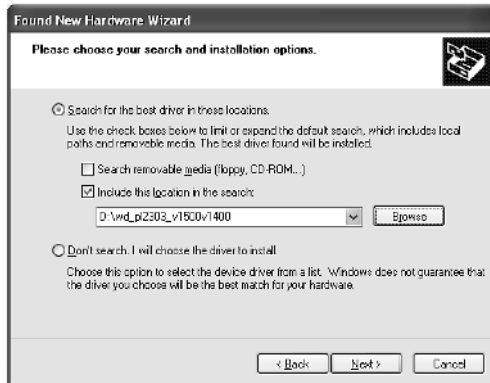

FIGURE 2
5. When prompted for the driver location check **Include this location in the search**, click **Browse** and refer to the folder where the driver was downloaded or the Flicware or Flicware Pro CD (see figure 2). Ensure the path selected is appropriate for your Windows operating system.